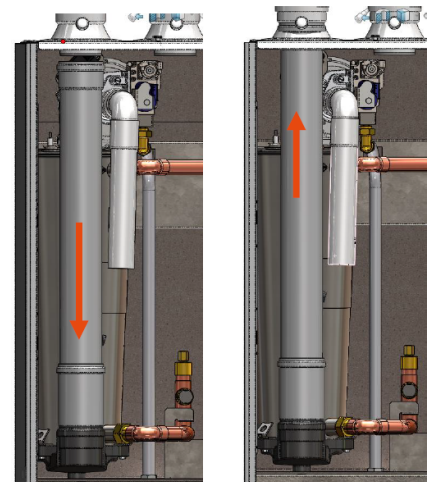

Fig. 8 - Venting pipe with telescopic section
- Insert bottom of telescopic pipe into bottom connection of condensate dish, as shown in Fig. 8